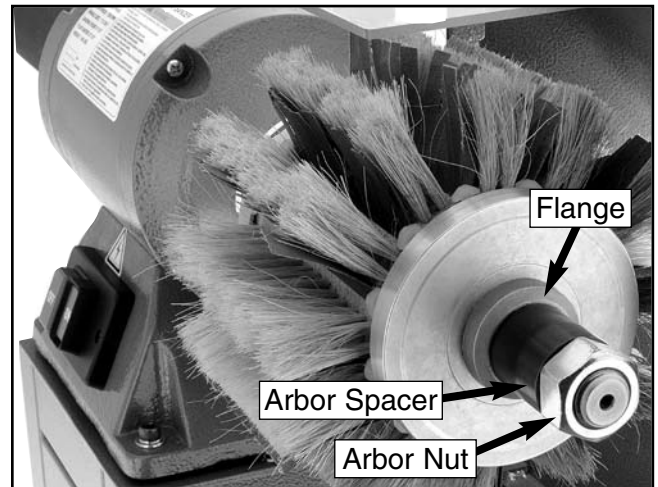

Figure 16. Flap sander with correctly mounted hardware.
2. Slide the flange and the arbor spacer onto the arbor, and begin threading the left-hand threaded arbor nut onto the end of the arbor (**Figure 16**).